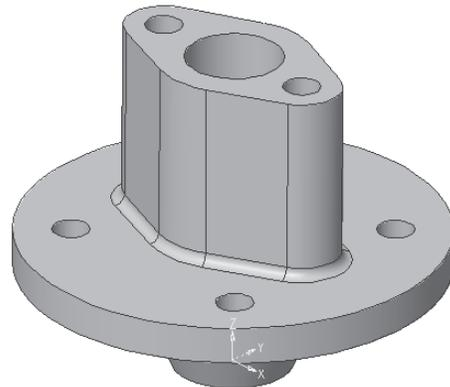

Figure 3-75 Isometric view of the model
8. Clear the **Enable Procedure** option from the shortcut menu displayed. The isometric view of the final model is displayed, as shown in Figure 3-75.